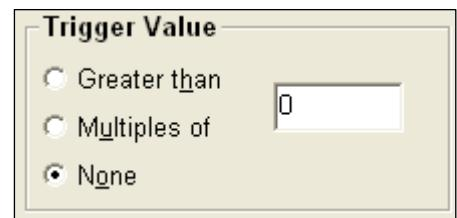

Figure 362
7. Select your trigger type (Figure 362):